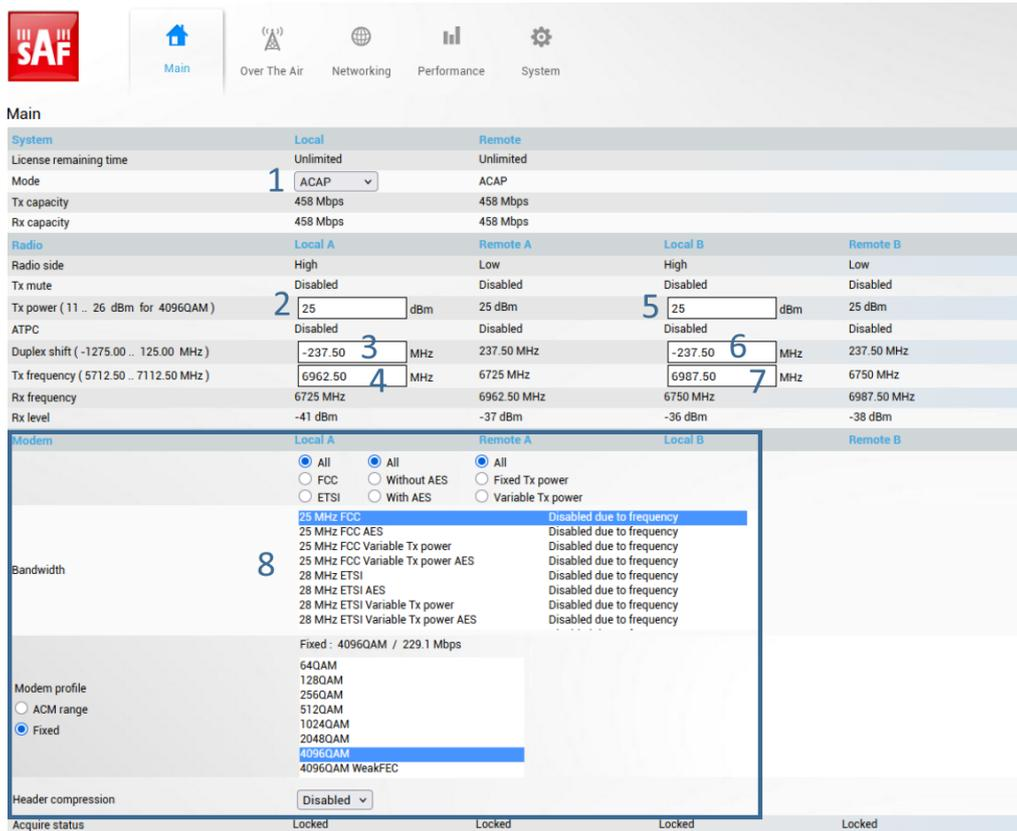

Figure 6-27 2+2 ACAP HSB full redundancy configuration
STEP1: Main parameter configuration on the Main page, please see Figure 6-27.